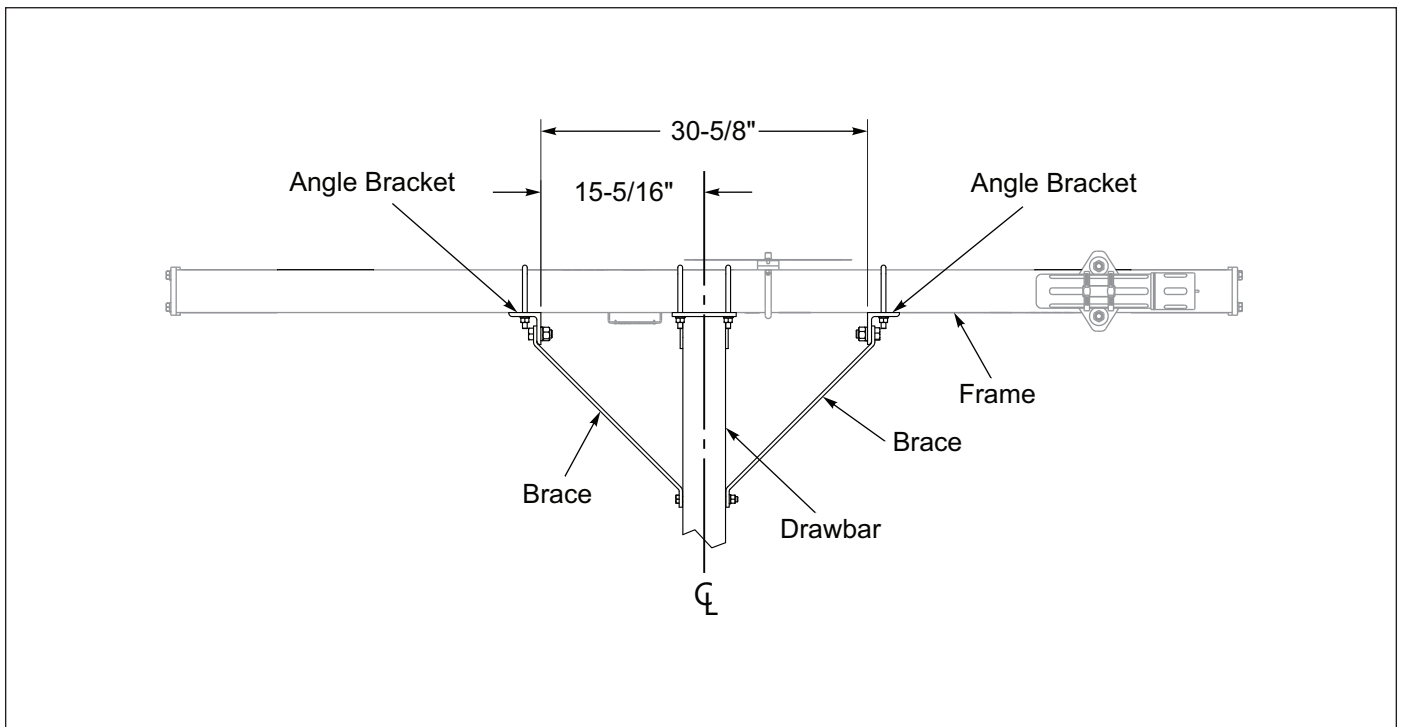

Figure 2-8: Drawbar Position, PP8
2. Center and Position Angle Brackets 30-5/8" apart on the front Frame Tube. **See Figure 2-8.** Secure with 1/2-13 U-Bolts, Lock Washers, and Nuts.